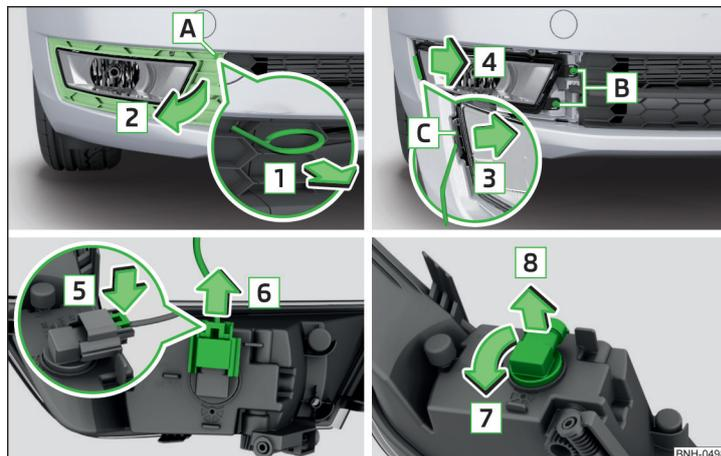

Fig. 158 Remove the number plate light / replace the bulb
- › Insert the clamps for removing the full wheel covers » page 155, *Vehicle tool kit* into opening **A** » Fig. 158.
- › Replace the fog light by inserting it in the opposite direction of the arrow **4** » Fig. 158 and tightening.